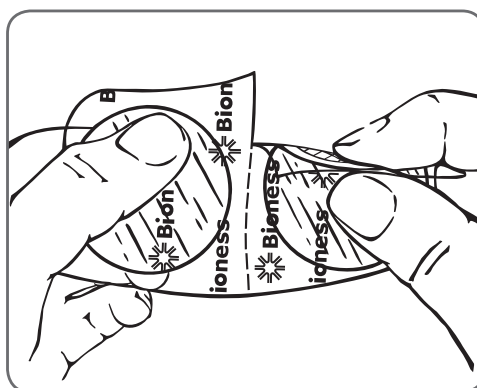

Figure 8-10: Separating the L300 hydrogel electrodes.
1. Separate two new hydrogel electrodes along the perforation. See Figure 8-10.